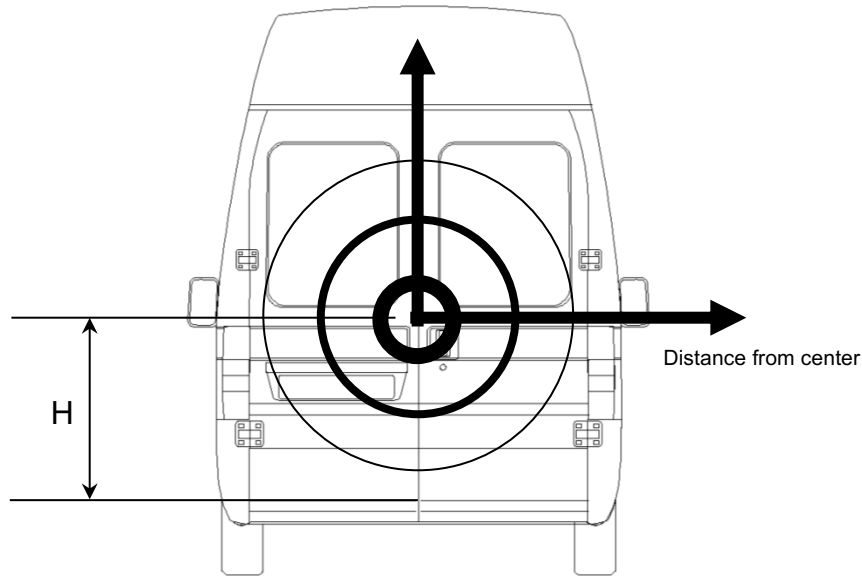

Fig.4
- The positioning of the armor with respect to the lower edge of the door "H" must be such as to maximize effectiveness, therefore **as much as possible in the center of the door** (see fig. 4).